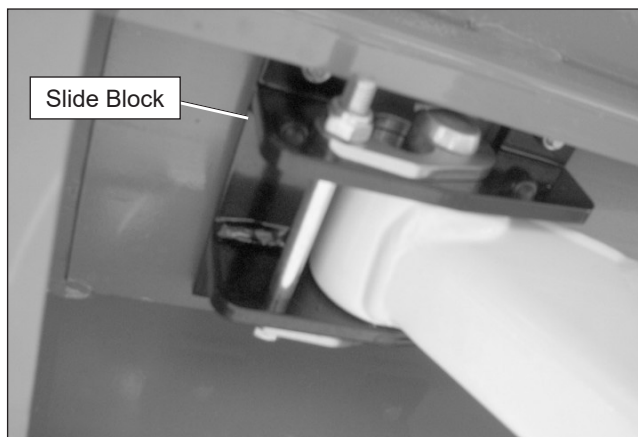

Figure 8.16 – Underneath Front of Platform
2. Raise the platform from the lower controls and visually inspect the slide blocks underneath the front of the platform (refer to Figure 8.16). There is one slide block on each side of the platform. The slide blocks must be in good condition and free to move without obstruction.